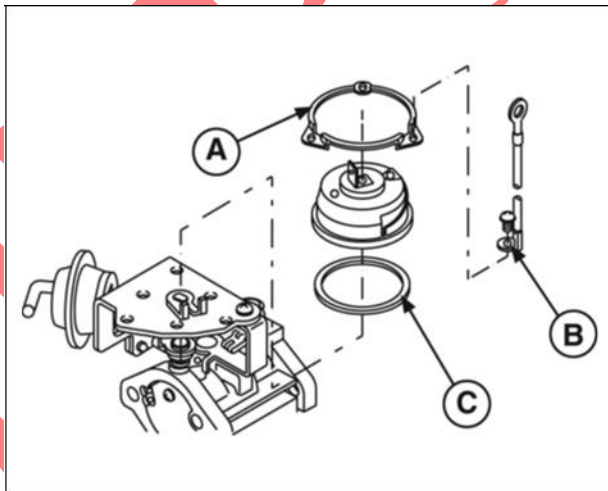

Figure 32
6. Remove three screws, thermostat retainer (**A**, Figure 32) and ground wire (**B**). Discard thermostat gasket (**C**).